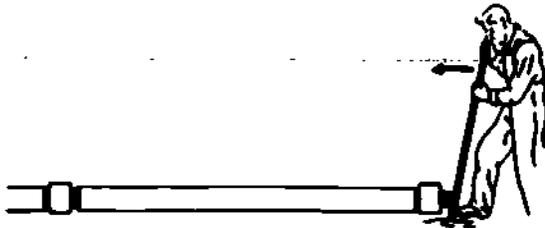

Figure 1-78. Method for Hand Levering
c) In pipe sizes under NPS 8, or 200 mm, and when a mechanical puller is not available, the pipe and fittings can be assembled with a bar and block of wood as illustrated in Figure 1-78.